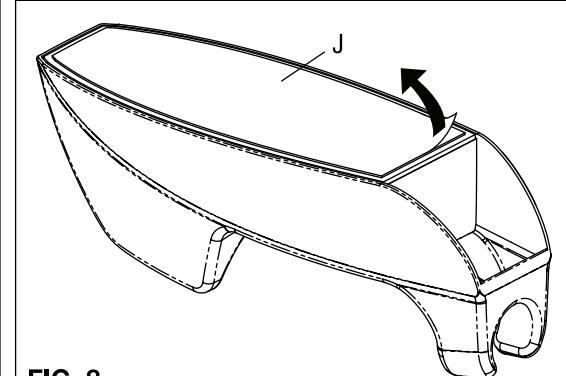

FIG. 10
- Position the Dock Hook (D) through the back plate as shown in Fig. 10 and secure the hook firmly to the back plate with Screw (K).
- Remove the tank lid and place the installed Dock Hook (D) on the edge of the tank.
- Turn the Shut-Off Valve (SOV) back **ON** and check for leaks. Turn Diverter Valve (E) **ON** to check for leaks. Press trigger while aiming the Sprayhead into the toilet to check for leaks. If no leaks are detected installation is complete.